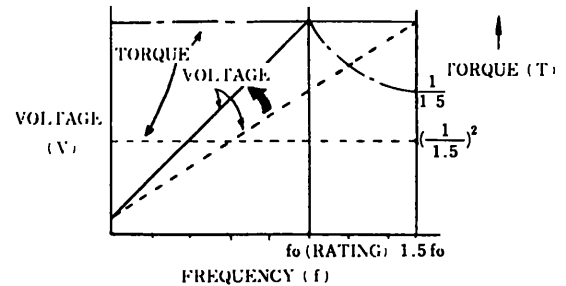

Fig. 1.6 Change of V/f Characteristics
The V/f characteristic should be modified so that the rated voltage is obtained at the rated speed, as shown in Fig. 1.6. If this is not satisfied, the rated torque cannot be obtained at the rated speed, because the torque is proportional to the square of the voltage, as shown by Eq. (4). When the speed is raised to 1.5 times the rated speed, the torque would be only $(1/1.5)^2$ times the rated torque.